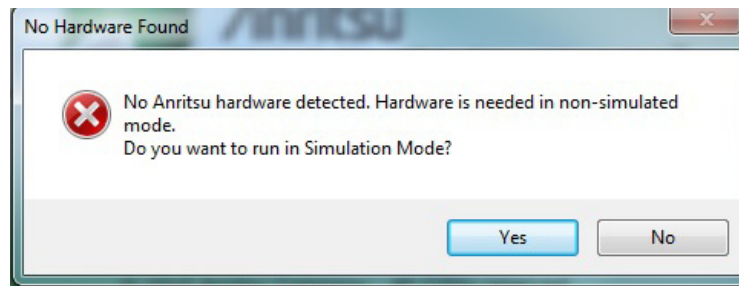

Figure 3-5. No Hardware Prompt
1. Launching the ShockLine software without plugging in the USB cable from the VNA to the controller first will result in the software asking the user if they want to run in simulation mode. See Figure 3-5. If you want to run in Simulation mode, go to Section 3-8 “Simulation Mode” on page 3-6.